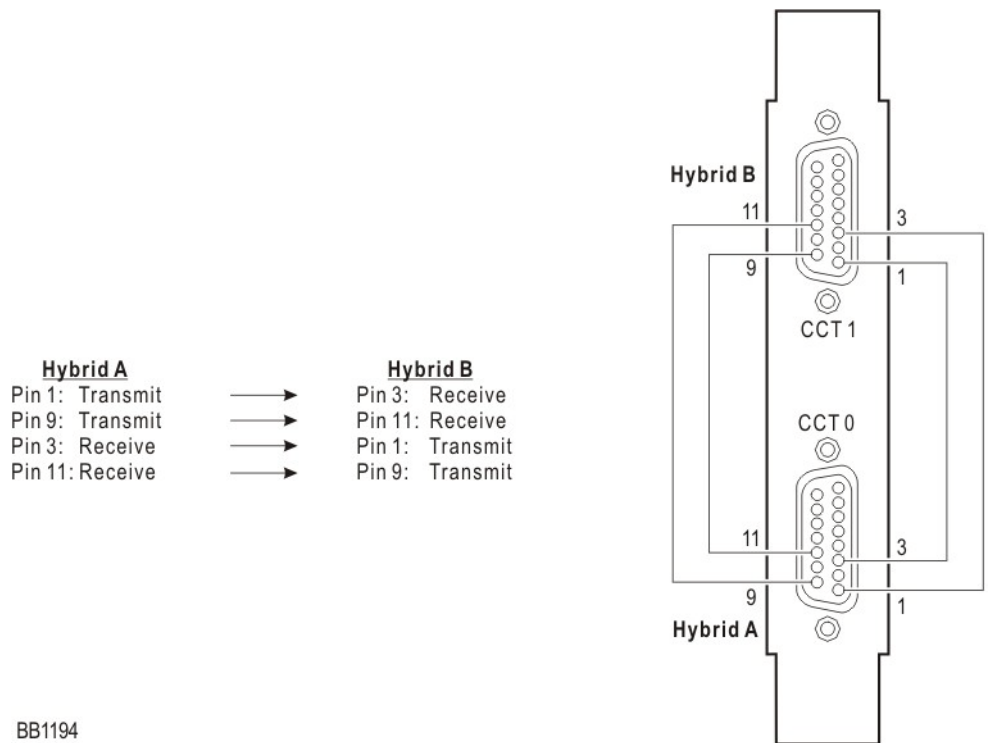

Figure 3: Loopback - Hybrid Connections (DB15 connectors on the DSU cards)
9. To set up loopback through the DSU card in a DSU cabinet, wire the DB15 connectors together as shown in Figure 3.